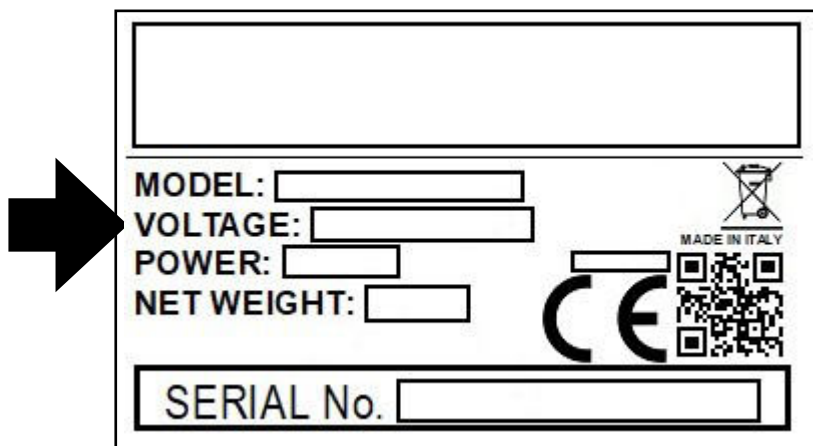

Fig. 1
- a) Check to make sure the voltage indicated on the machine nameplate corresponds to that of your mains supply (**Fig. 1**).